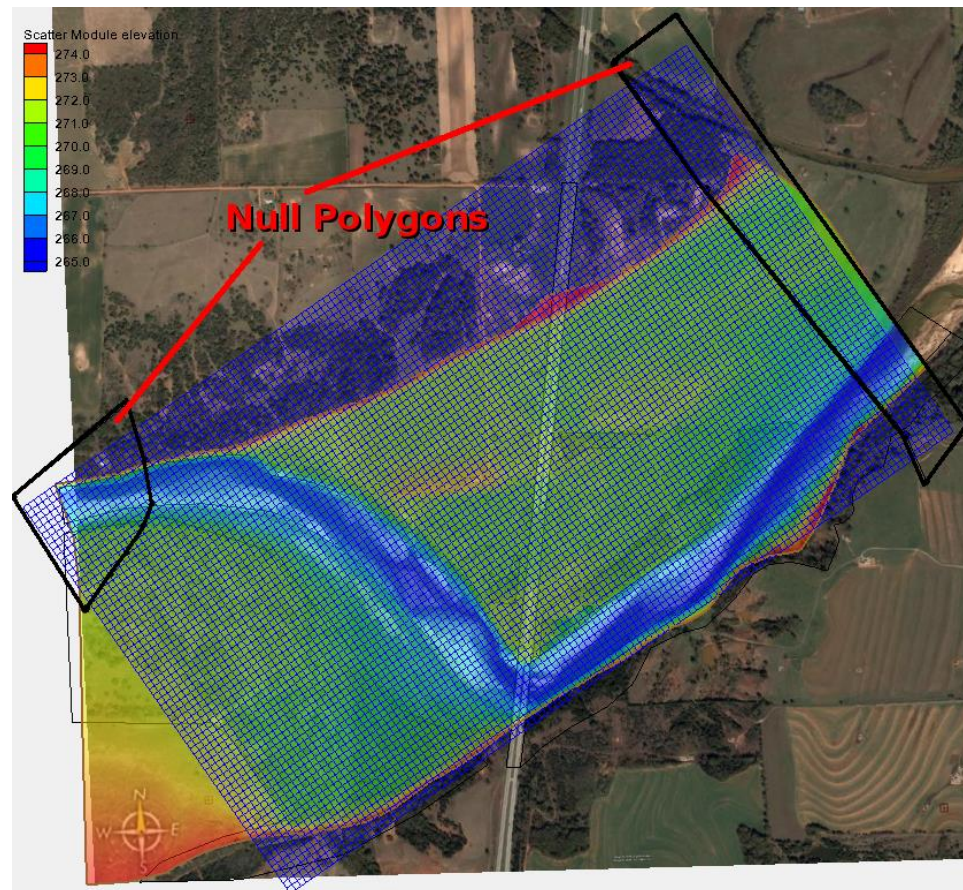

Figure 3 Downstream inactive polygon
downstream of the arc and closes on the other end of the downstream boundary condition arc as shown in Figure 3.
2. Repeat this process to define a polygon on the upstream side of the upstream boundary condition as shown in Figure 3.